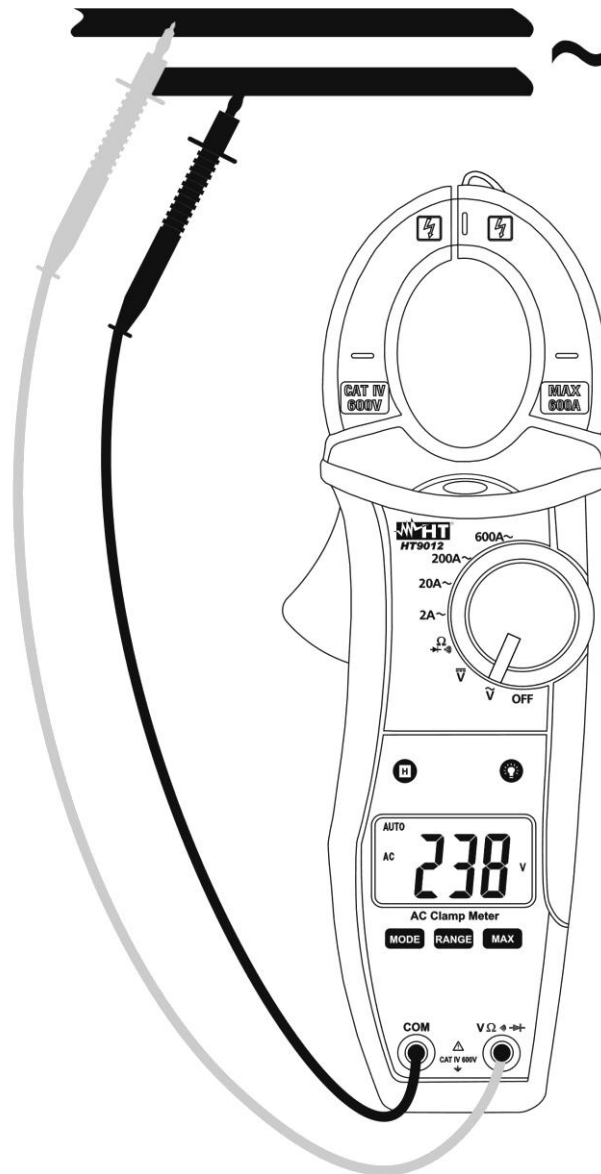

Fig. 4: Taking AC voltage measurement
4. Insert the red test lead plug into **VΩ→** jack and the black test lead plug into **COM** jack (see Fig. 4)
5. Connect the two long ends of test leads to the desired circuit (see Fig. 4) then reading will be displayed